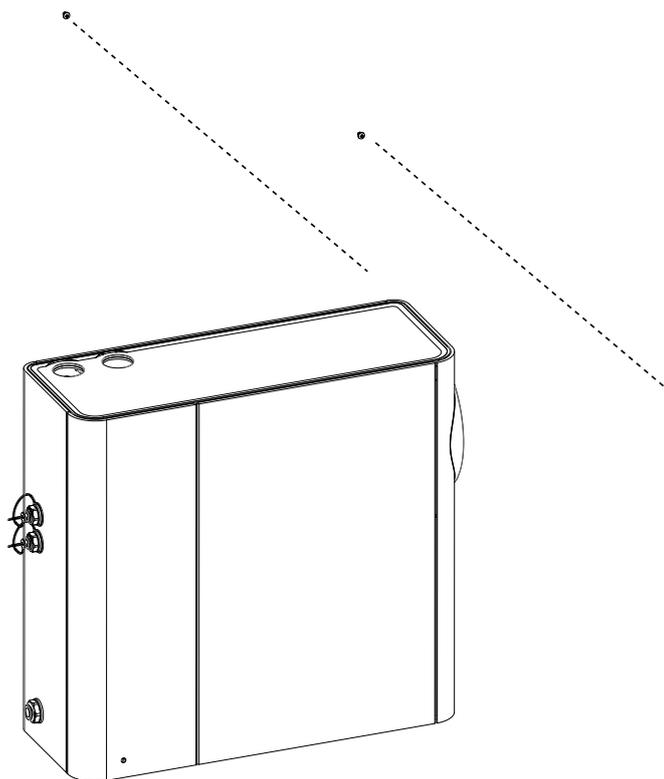

Figure A-12: Insert mounting screws
4. Remove the Expansion StaX and mounting bracket spacer from above the detector. Insert two M4 button head screws in the upper two pilot holes and tighten until the screw head is protruding 7 mm from the wall (Figure A-12).